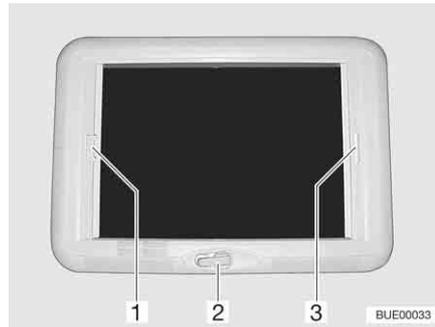

Fig. 71 Wind-up skylight
- Rotate the hand crank (Fig. 71,2) until a resistance can be felt (max. opening angle 70°).
- Pull the handle of the Roman shade (Fig. 71,3) and release in the desired position. The Roman shade will stay in that position.
- Pull insect screen at the handle (Fig. 71,1) to the opposite handle of the Roman shade (Fig. 71,3) and allow to engage.
- Press the handle of the insect screen (Fig. 71,1) at the back upwards and detach the insect screen from the Roman shade (Fig. 71,3).